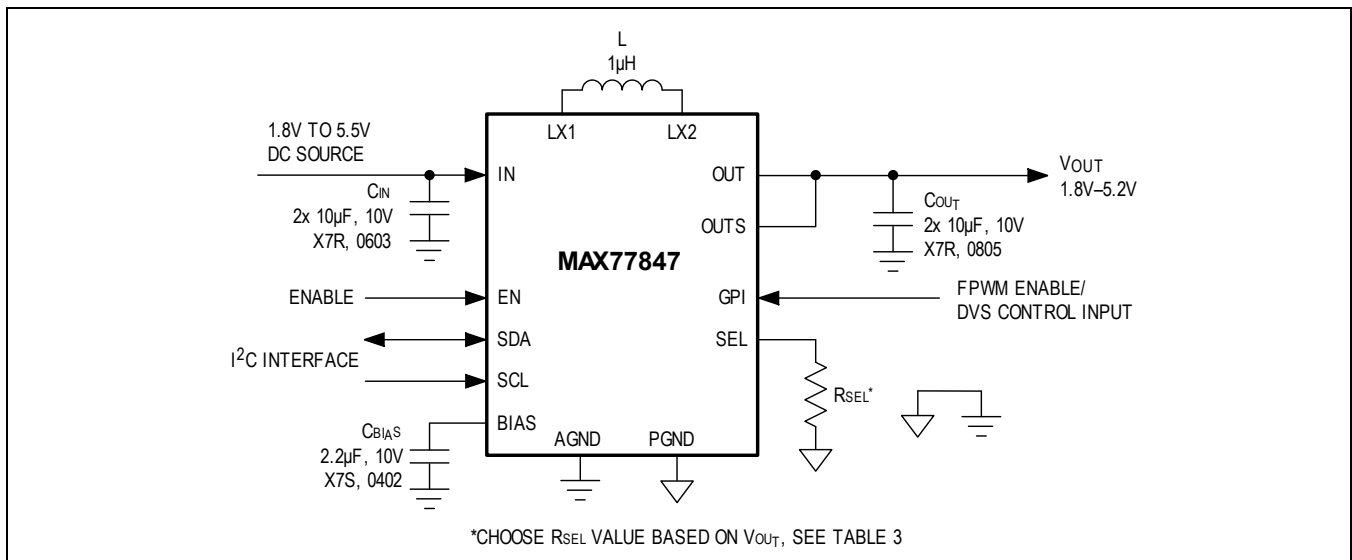
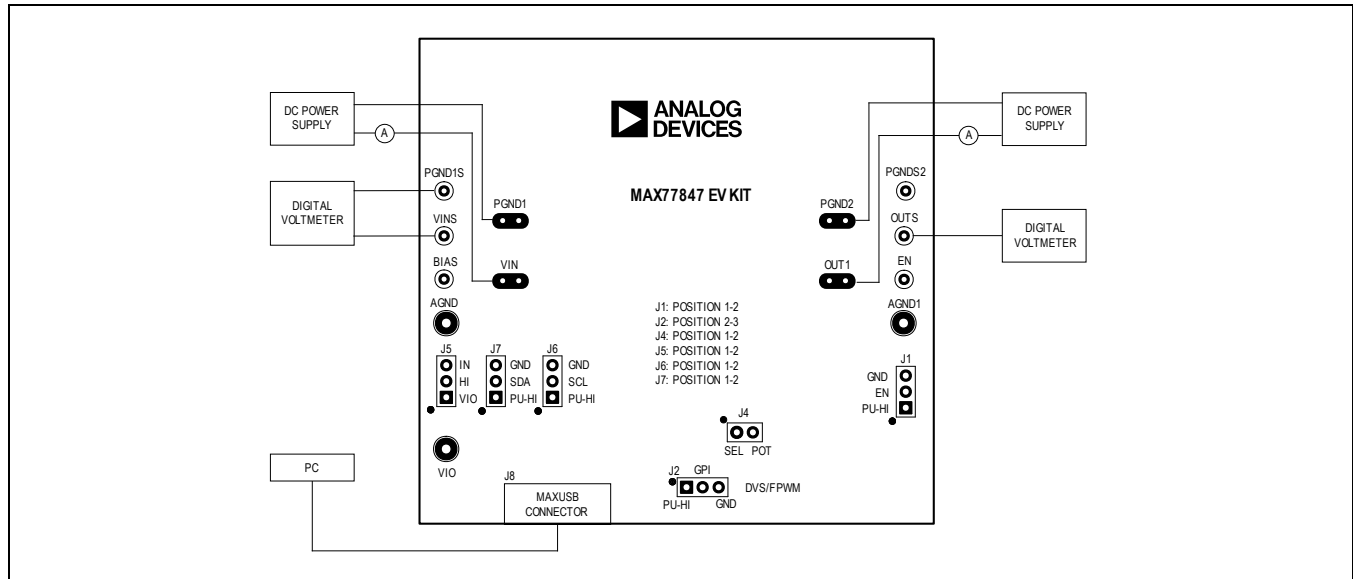
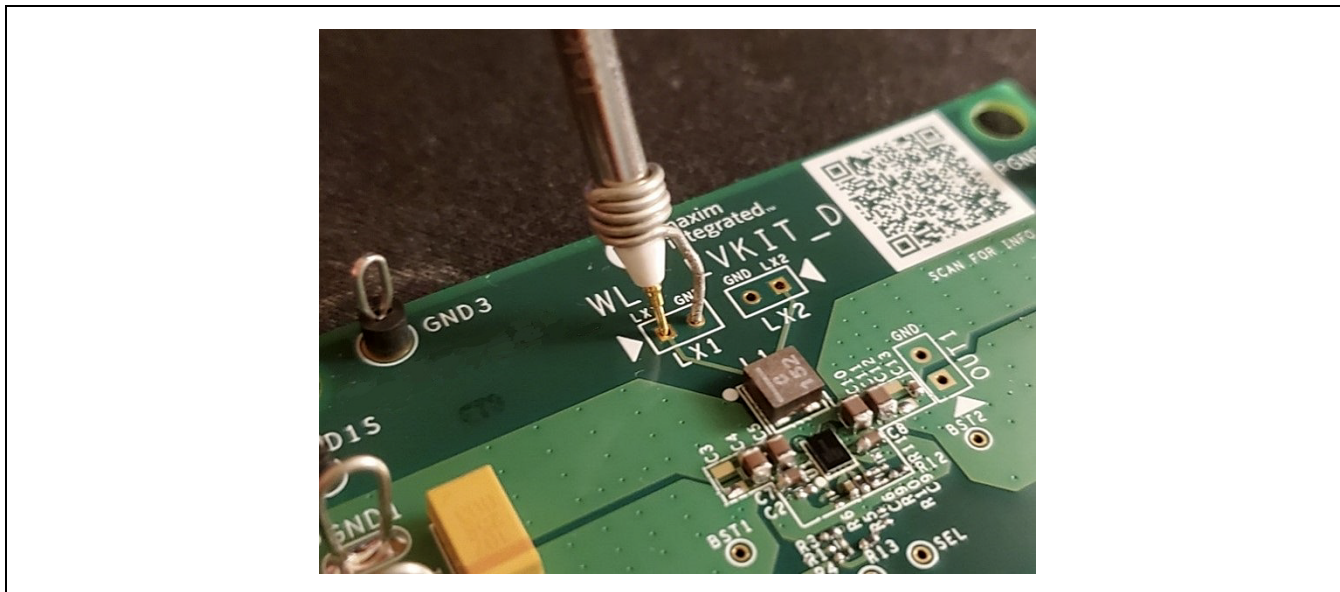

Figure 1. MAX77847 Typical Application Circuit
Figure 2. MAX77847 EV Kit Board Connections
Figure 3. Critical Node Measurement
The overview can be found in the following sections. See MAX77847 Evaluation Kit Board Photo, Figure 1 (MAX77847 Typical Application Circuit) and Figure 2 for the typical test setup that can be used to evaluate the EV kit.
The EV kit provides socket test points for measurement of critical nodes such as LX1, LX2 and OUT1. These probe points are shown in Figure 2. It is important to use a probe with a pig-tail connector attached and connected directly to the test points, as shown in Figure 3. The pig-tail connector minimizes the ground loop inductance for the measurement, thereby minimizing high frequency noise coupling. This method gives the most accurate results for measuring output voltage ripple, switching waveforms, and load transient response.
**Warning:** It is important not to connect the electronic load or DC power supply to the sense pins. These pins and their traces are not designed for carrying large amounts of current and are only designed to measure voltages. Drawing large currents through these pins can damage the EV kit and exhibit sub-optimal performance due to higher resistance. Use input supply terminals (VIN, PGND1) for connecting to input supply and output terminals (OUT1, PGND2) for connecting to electronic load, as shown in Figure 2.